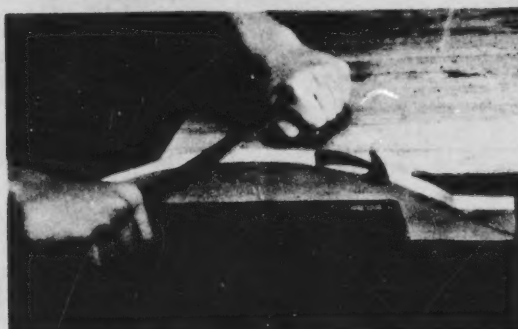

Figure 7-7 Drawfiling
4. Holding the file level on the edge of the wood, move the file back and forth with the grain. This is called **drawfiling**, and it produces a smooth surface and prevents the wood from **chipping** (Figure 7-7).